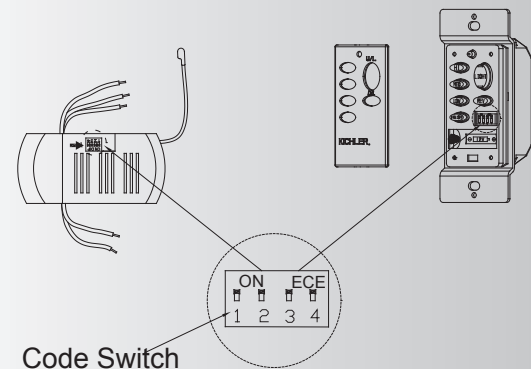

Fig. 19
**Step 3.** You can leave the frequency switches at the factory setting. Or you have to change the dip switch setting in the remote if you are using more than one fan in the same area and want to control them separately. Remove the battery and change the dip switch setting, assuring that they are different from the other fans. Reinstall the battery and switch plate on the control. (Fig. 19)